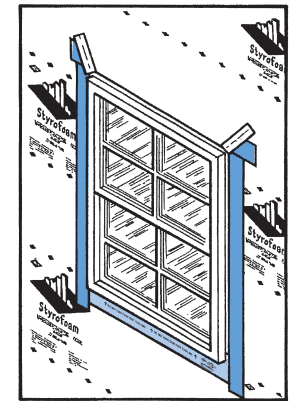

Figure 5
- Fold housewrap flap down and secure with WEATHERMATE™ Construction Tape (Figure 5). Air seal windows around entire interior perimeter with GREAT STUFF™ Pro Window & Door insulating foam sealant.